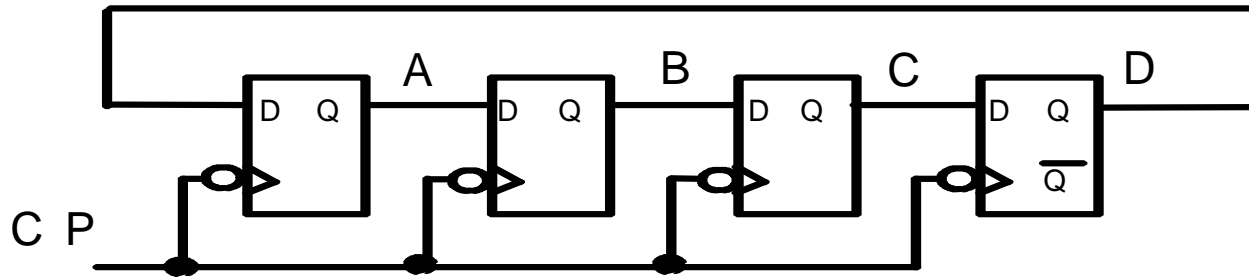

# Figure 7.5
- 7-1 Develop, verify, and synthesize **Johnson\_Counter\_ASM**, a Verilog behavioral module of based on a direct implementation of the ASM chart in Figure 7.5.